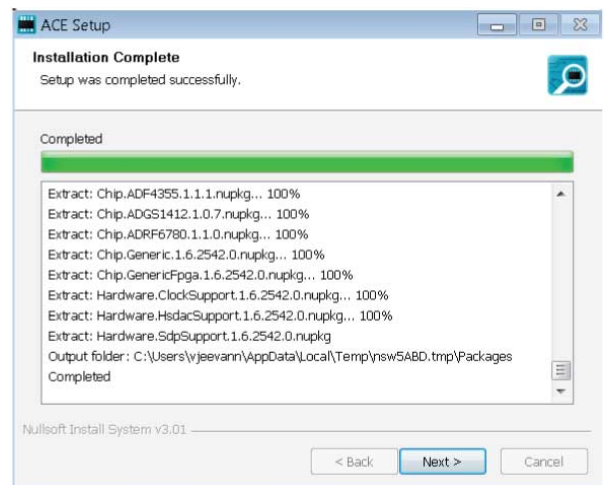

Figure 14. Installation Complete
- When the installation is complete, click **Next >** (see Figure 14), and then click **Finish** to complete the installation process.